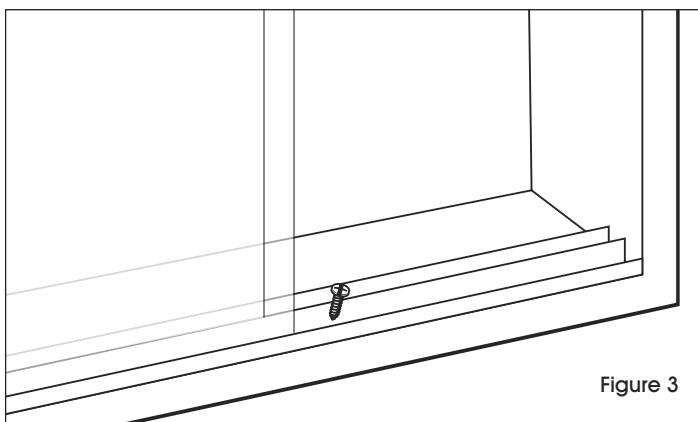

Figure 3
5. Drill the aluminum track onto the bottom of the message center using remaining three Phillips head screws. It may be necessary to pre-drill holes in frame. (See Figure 3)